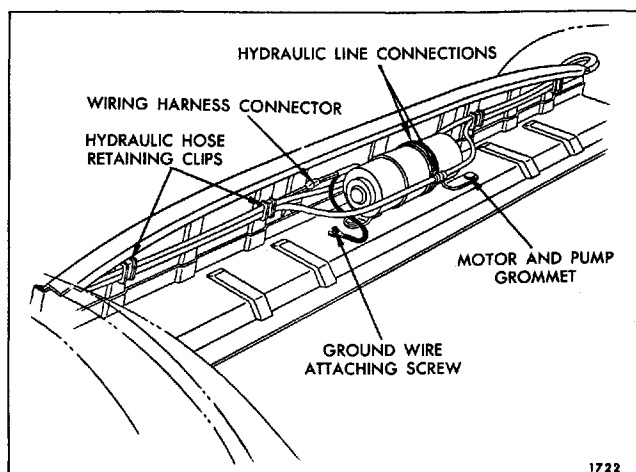
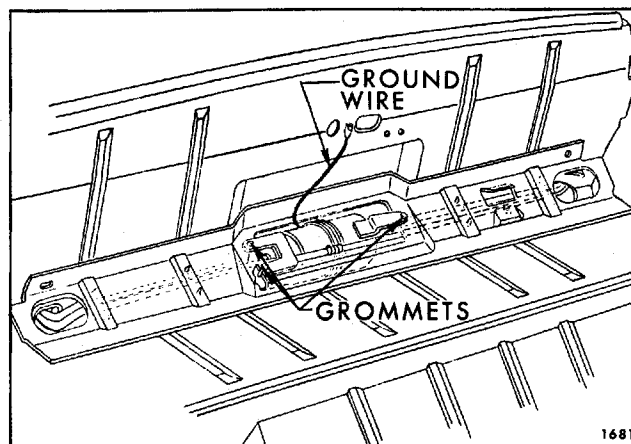

Fig. 6-58—Motor And Pump Assembly
Fig. 6-59—Hydro-Lectric Motor And Pump Assembly
The high pressure hydro-lectric unit used in the convertible bodies, consists of a 12 volt reversible type motor, a rotor-type pump, two hydraulic lift cylinders, and an upper and lower hydraulic hose assembly. On the "A" Series the unit is installed in the body directly behind rear seat back. (Fig. 6-58). On the "B & C" Series the unit is installed in the body beneath the rear seat back panel (Fig. 6-59).
6. Remove clips securing wire harness and hydraulic hose to rear seat back panel. (Figs. 6-58 and 6-59).
7. a. On "A" Body Styles disconnect motor leads from wire harness and ground attaching screws (Fig. 6-58).
b. On "B & C" Body Styles at rear seat back panel, disconnect wiring harness and remove ground wire attaching screw (Fig. 6-59).
8. To facilitate removal, apply a rubber lubricant to pump attaching grommets; then carefully disengage grommets from floor pan. (Figs. 6-59 and 6-58).
11. Disconnect hydraulic lines and cap open fittings to prevent leakage of fluid. (Figs. 6-58 and 6-59). Use a cloth to absorb any leaking fluid, then remove unit from rear compartment.